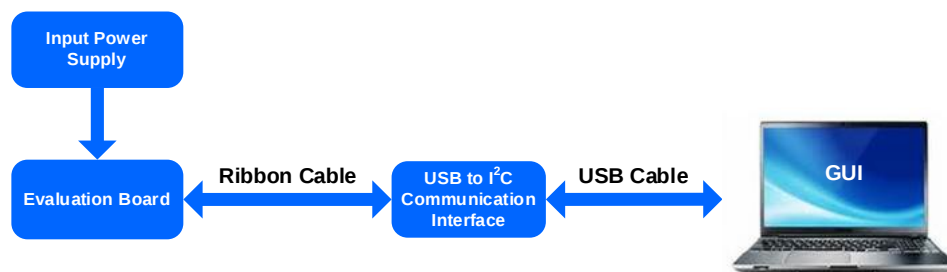

Figure 1: I²C Evaluation Kit Set-Up
- b. Connect the EVKT-USBI2C-02 to CN3 and the computer with a ribbon cable and USB cable, respectively (see Figure 1).